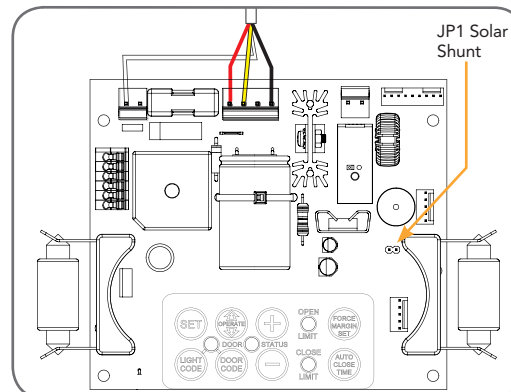

Fig 14
5. Plug the Charger Board's three wire harness (red/yellow/black) into the control board's "SBY-3" connector (Fig. 14).
6. Plug the Charger Board's one wire harness (white) into the control board's "24vac in" connector on (Fig. 14).
7. Plug the solar shunt (supplied) onto the control board's "J13" connector (Fig. 14)